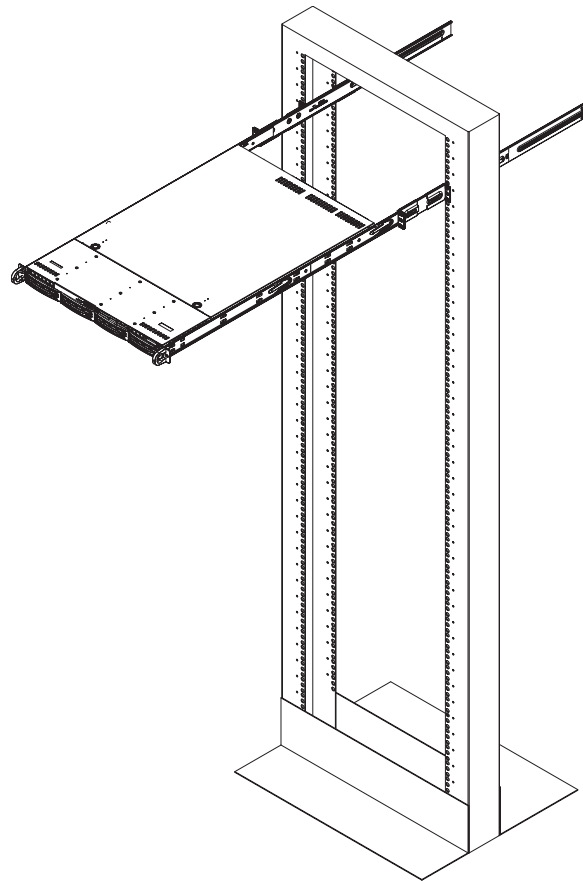

Figure 2-3. Installing the Server into a Telco Rack
2. Slide the chassis rails into the rack rails, keeping the pressure even on both sides (you may have to press the locking tabs when inserting). See Figure 2-3.